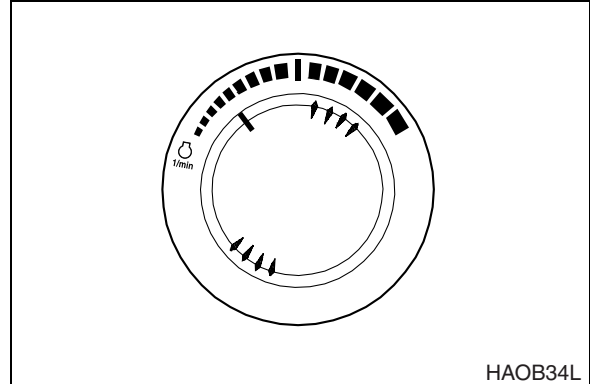

Figure 3
2. Set engine speed control dial slightly above “LOW IDLE” (Figure 3).